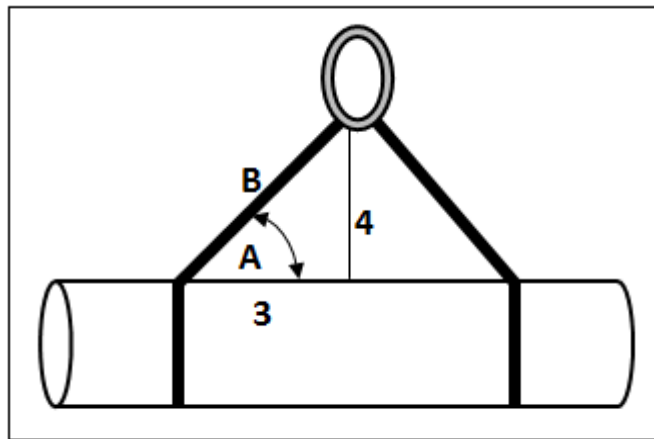

FIGURE 4
7.1 Study FIGURE 4 showing a solid round bar that has to be lifted to a platform by a crane.